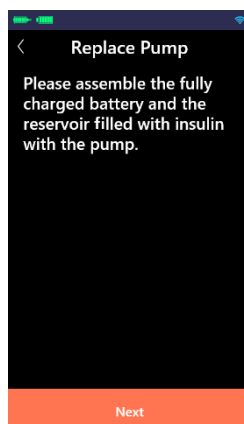

Figure 11.3
(3) Please assemble the fully charged battery and the reservoir filled with insulin with the pump (as shown in Figure 11.3). After the assembly is completed, please click "Next".